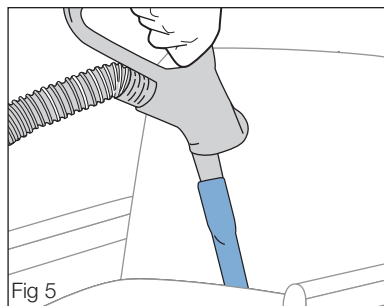

Fig 5
- Press power switch to select carpet or hard floor (Fig. 5).
Use 'hard floor' setting for wood, tile, or other hard-surface floors (Fig. 5). **Do not use** 'carpet' setting for hard-surface floors, as the brush roll could damage delicate surfaces.
For rugs or carpeted floors, press switch to 'carpet' to engage brush roll (Fig. 5). The brush roll automatically adjusts to carpet height.
Use for grooves, narrow openings, tight spaces (Fig. 5).